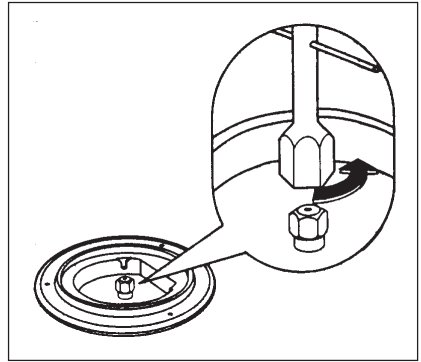

Fig. 2
- With a socket spanner 7 unscrew and remove the injectors (Fig. 2), and replace them with the ones required for the type of gas in use.